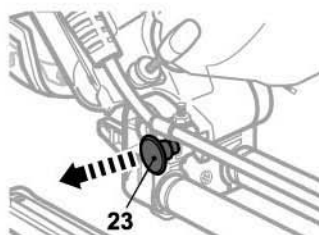

Fig. 23
1. Push the handle (1) downwards and release the locking bolt (23) from its locking position (Fig. 23, 24).